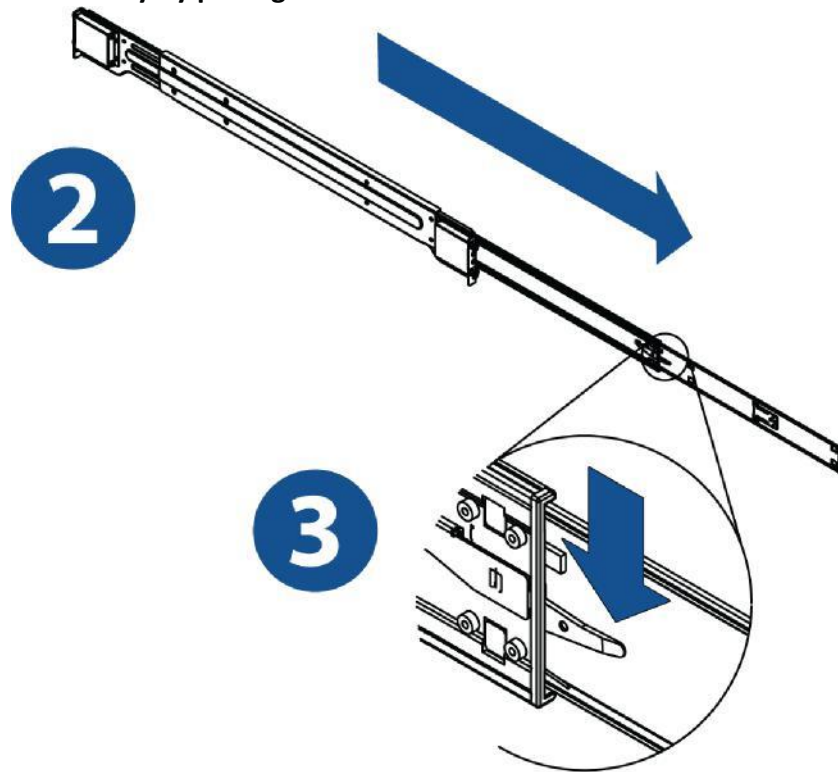

Figure 7: Extend Rail Assembly
- 3. Press the quick-release tab as illustrated in Figure 7.